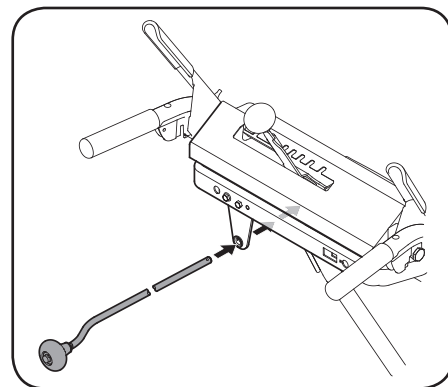

Figure 2-32
4. Guide the chute crank rod through the bracket located on the rear of the handle panel. See Figure 2-32.